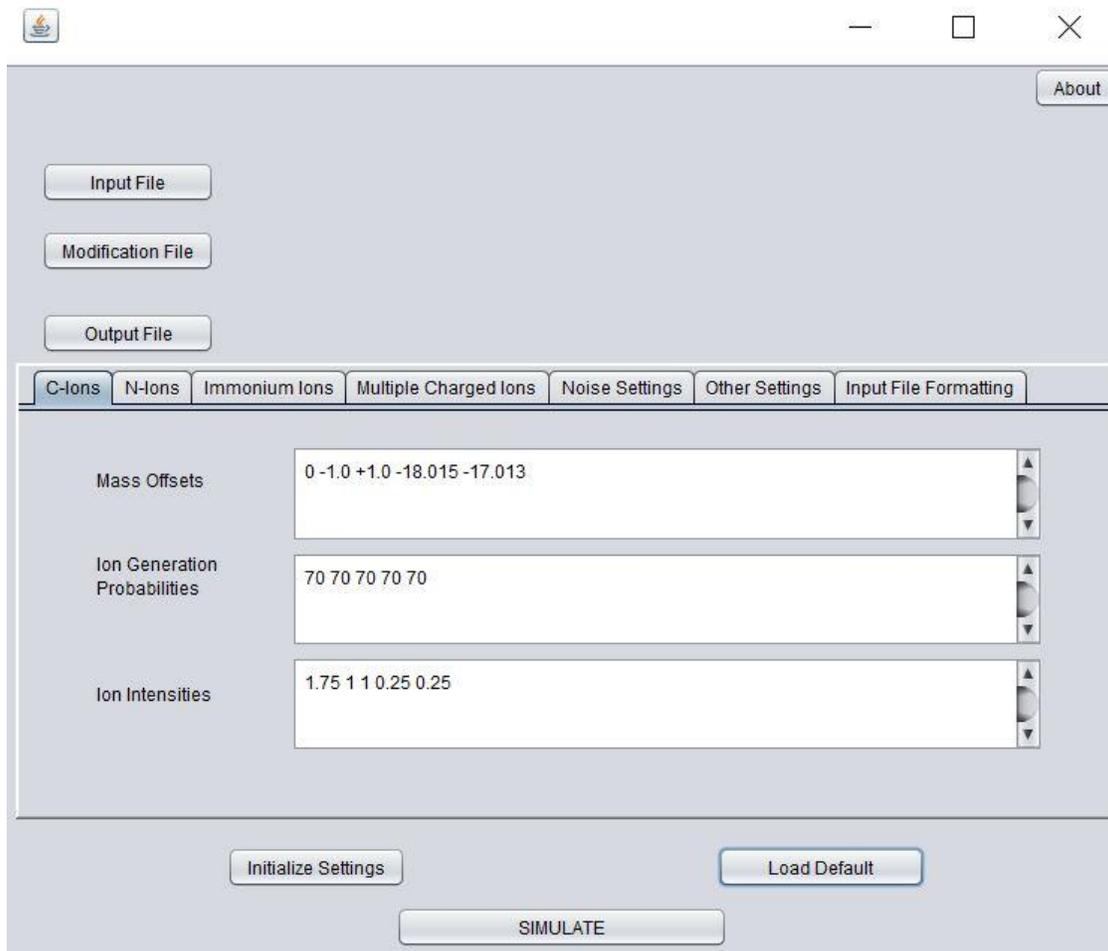

Figure 2
- For instance, in Figure 2. An offset of 0 means y-ion series, offsets of -1/+1 will generate isotopic ions for y-series and similarly offset of -18 and -17 will generate neutral water and ammonia losses for each y-ion.